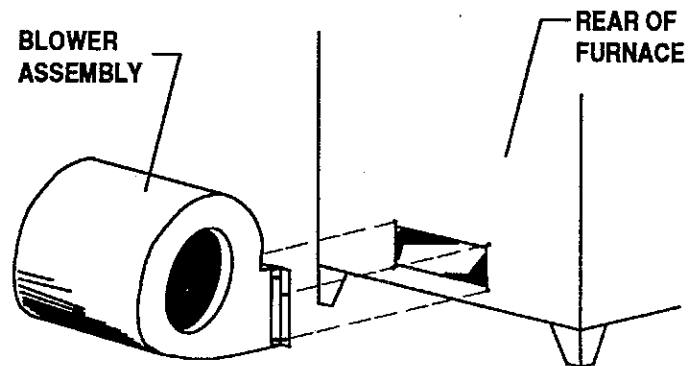

Figure 2
- 2.) Align main circulating blower into position at the rear of the furnace and bolt securely into place using 4 - 1/4" bolts. (Figure 2, Page 5)
- 2.) Align main circulating blower into position at the rear of the furnace and bolt securely into place using 4 - 1/4" bolts. (Figure 2)